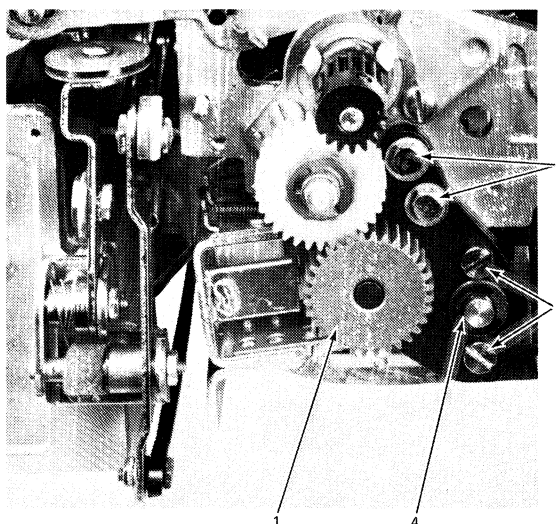

Figure 4-9. Belt Replacement (Left Side of Printer Gear Guard Removed)
6. Remove the lower idler gear (No. 1, Figure 4-9) by removing the two lower screws first (No. 2, Figure 4-9); then the two upper screws (No. 3, Figure 4-9); and the C-clip (No. 4, Figure 4-9).